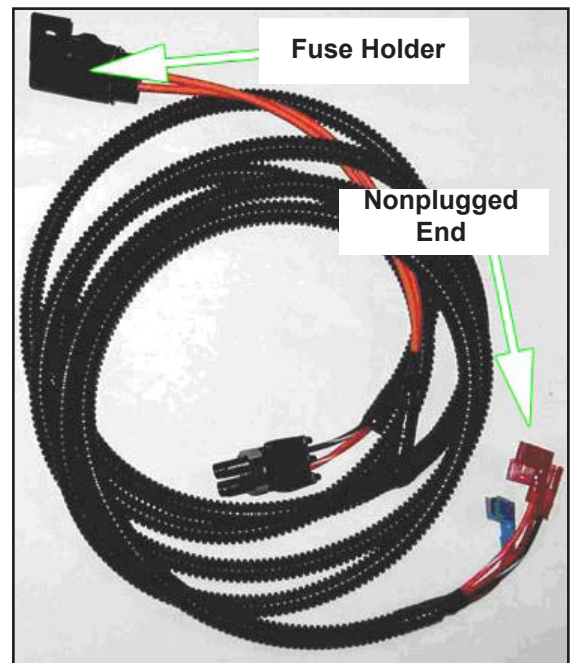
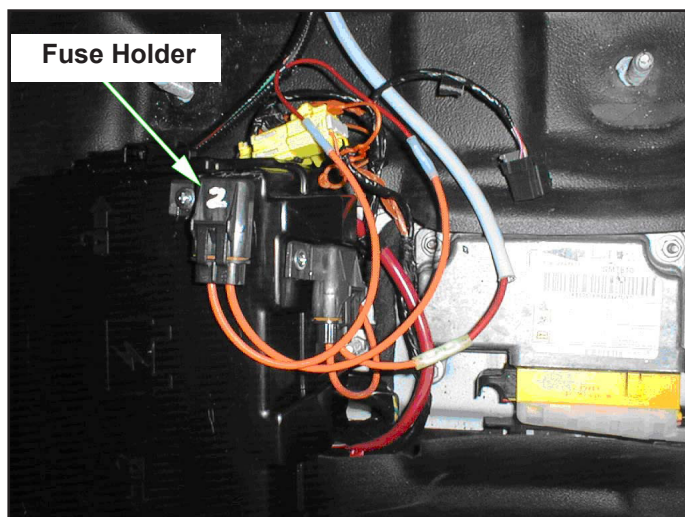

Figure 43. Fuse Holder and Nonplugged End of Throttle Cable
Figure 44. Secure Fuse Holder
1. Route the nonplugged end of the throttle cable from the CDS unit under the Power Pack and toward the steering column (see Figure 43).
3. Secure the fuse holder (containing the 2 Amp fuse) to the lid of the fuse panel with the provided self-tapping screw (refer to Figure 44). Note that the fuse holder is part of the throttle cable (see Figure 43).